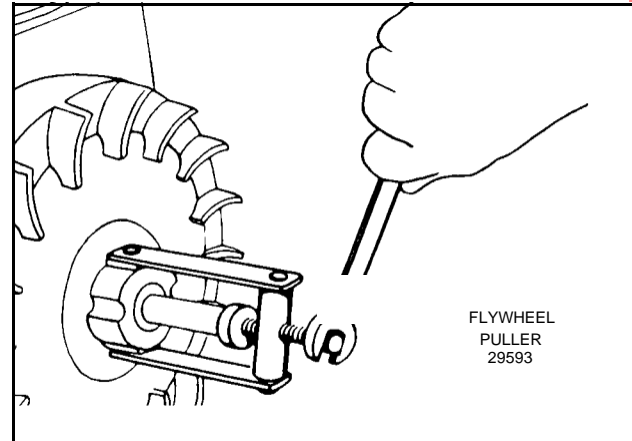

Fig. 11 – REMOVING FLYWHEEL
The flywheel is mounted to the crankshaft with a bolt and nut. Remove the starter lever, pedal, or pulley, and the blower housing. Loosen the flywheel nut and bolt so that you can remove starter clutch assembly. Mark flywheel and crankshaft on the bolt head side. The flywheel hub has two (2) shoulders, the one on the bolt head side is higher than the other. Remove bolt and nut. Use Flywheel Puller, Tool #19054, Fig. 11.